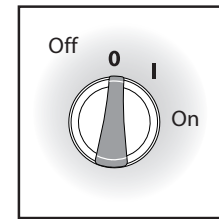

fig. 11
1. Make sure the power switch is in the OFF (O) position (fig. 11).
5. Turn the power switch to ON (--) (fig. 11).